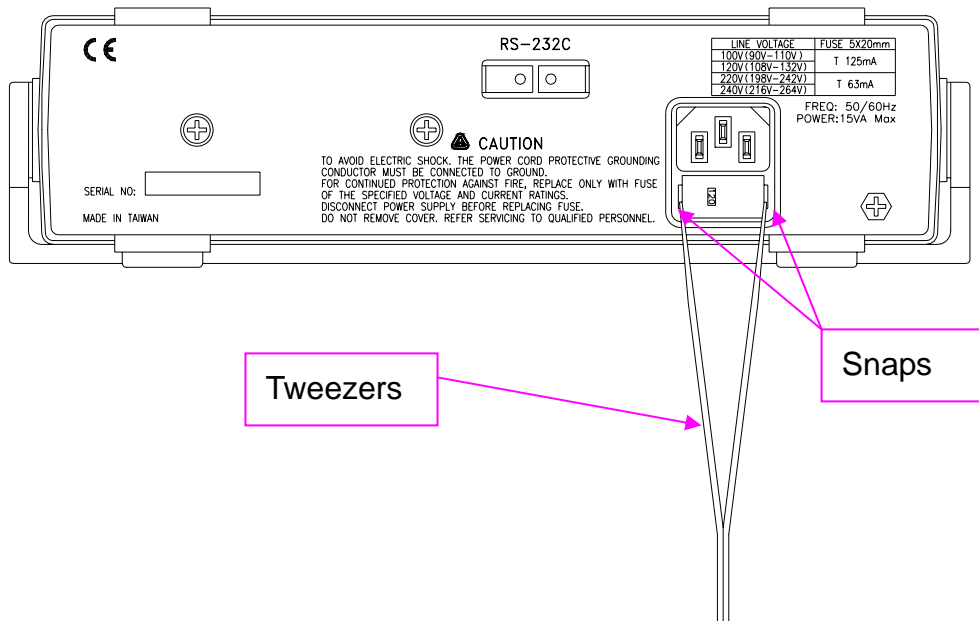

Figure- 28. Remove the fuse holder
1. Use a tweezers to push the snaps of fuse holder to pull out the fuse holder. See Figure-28.